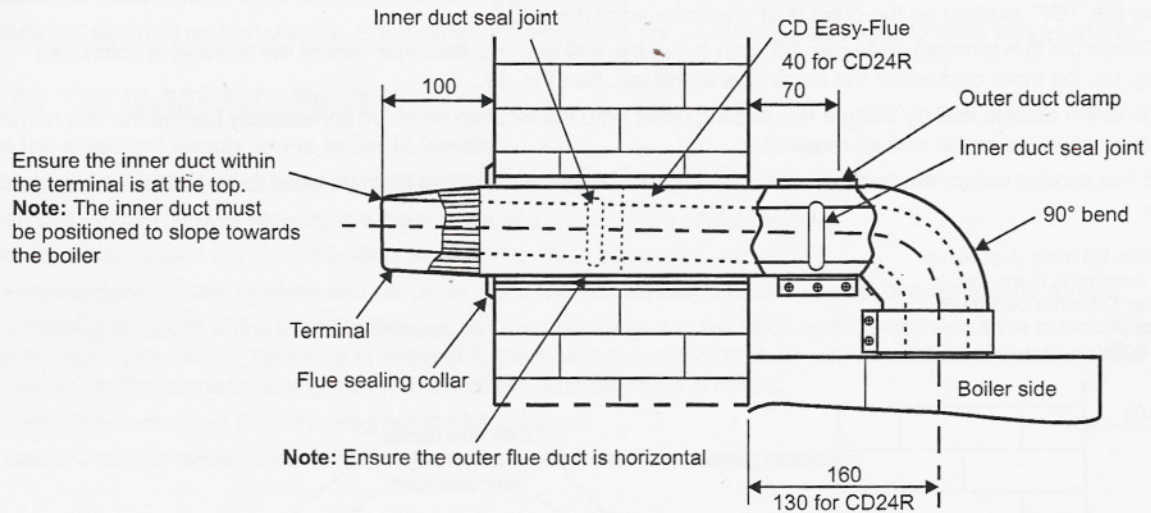

Fig. 18 - Rear flue
**Note:** Check the flue terminal protrudes 100 mm out of the wall and the inner duct of the terminal is positioned correctly (see Fig. 18).